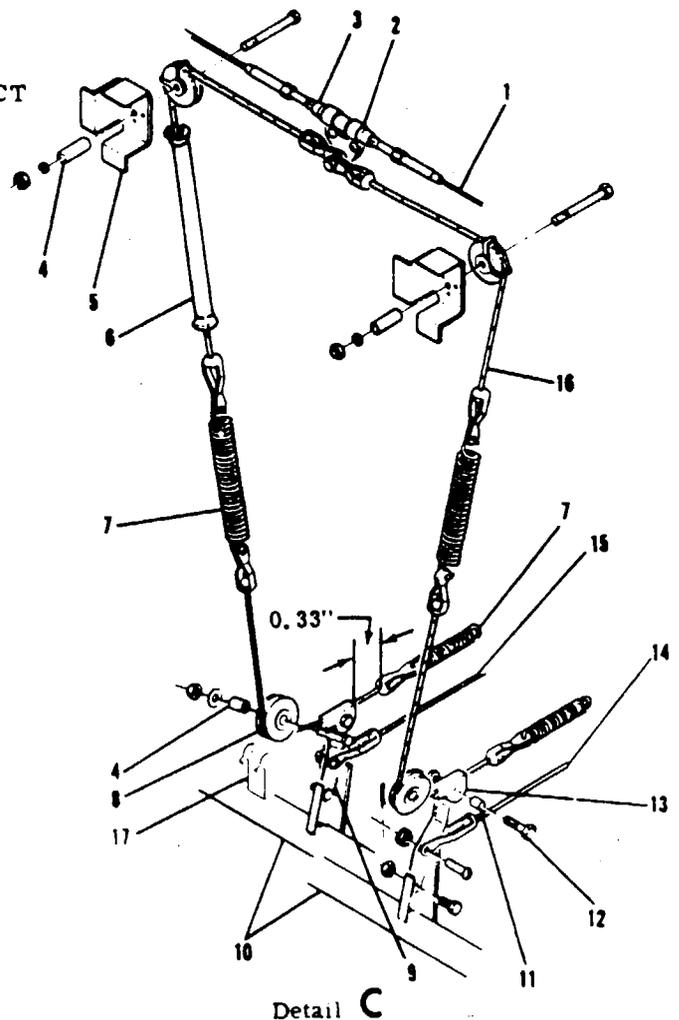

Figure 6-2. Control Column Installation (Sheet 5 of 5)
6-8. BEARING ROLLER ADJUSTMENT. (Refer to figure 6-2.) Each bearing assembly (6) has an 0.062" eccentric adjustment when installed, for aligning the control tube weld assembly and push-pull tube (22) with the guide assembly (21). For alignment, proceed as follows:
- b. Install cover plate (5) backwards (bearings on aft side) and leave loose with instrument panel.
- c. Align control wheel tube assembly (14) for free travel of push-pull tube (22) along full length of guide assembly (21).
- d. Center cover plate (5) over tube and bearing assembly and secure plate to instrument panel.
- e. Adjust each bearing (6) to control wheel tube assembly and tighten bearings in place.